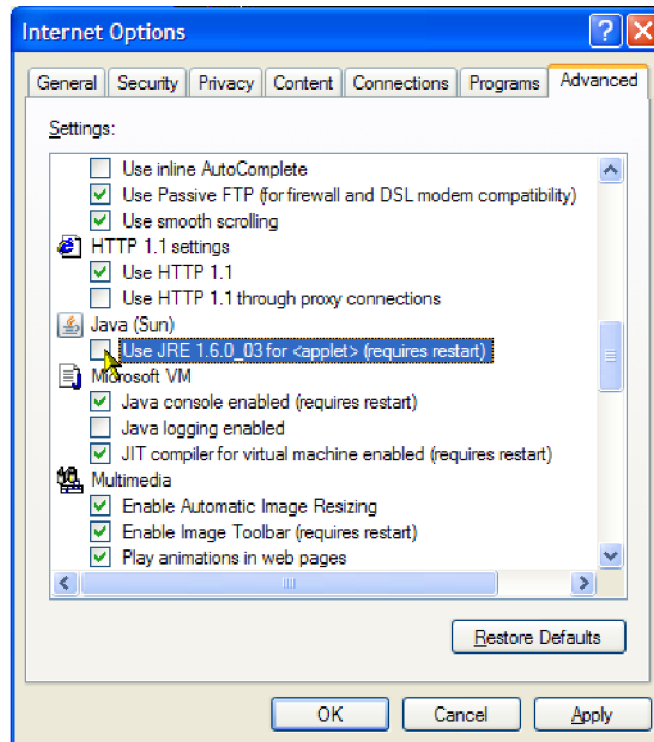

Figure 14: Internet Options dialog box
3. Locate the **Java (Sun)** node, and then select the **Use JRE** check box. (See Figure 14.) Note that your version of the JRE may be later.